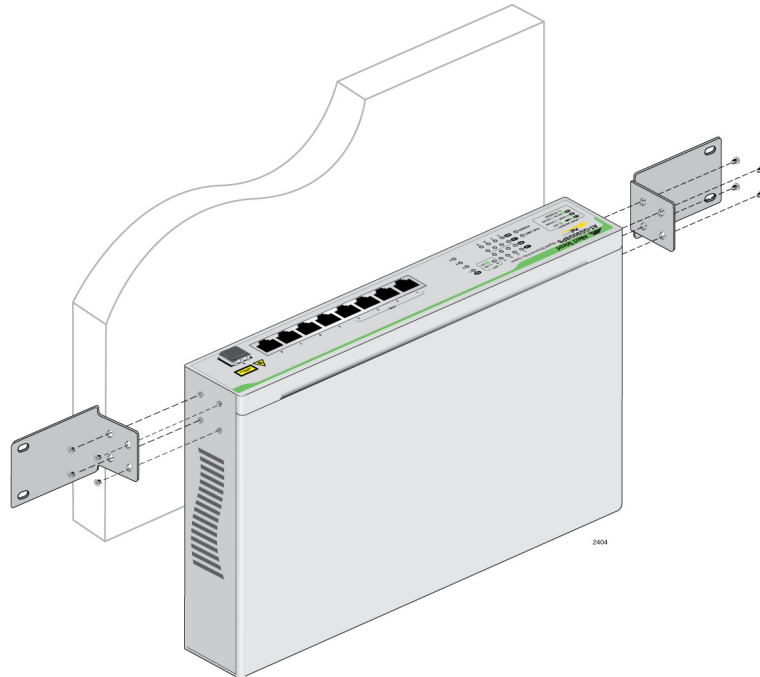

Figure 8. Attaching the Brackets to Install the Switch on a Wall
3. Orient the brackets against the sides of the switch as shown in Figure 8, and secure them to the unit with the eight bracket screws included with the switch.